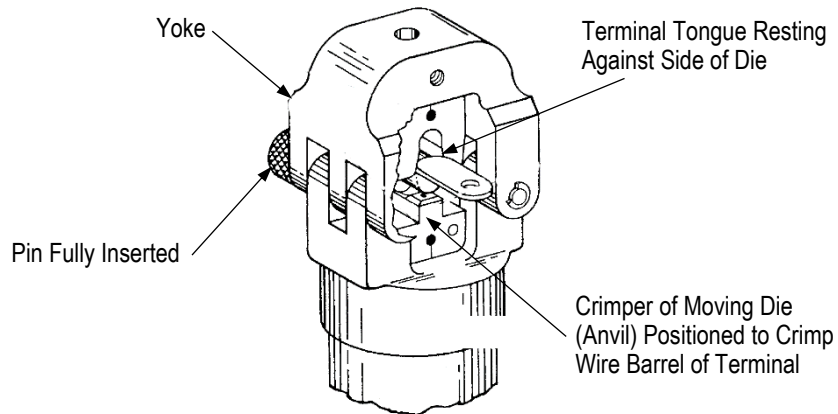

Figure 3
Make sure terminal is positioned so crimper of the moving die (anvil) will crimp the wire barrel of the terminal. See Figure 3.
*Make sure terminal is positioned so crimper of the moving die (anvil) will crimp the wire barrel of the terminal. See Figure 3.*